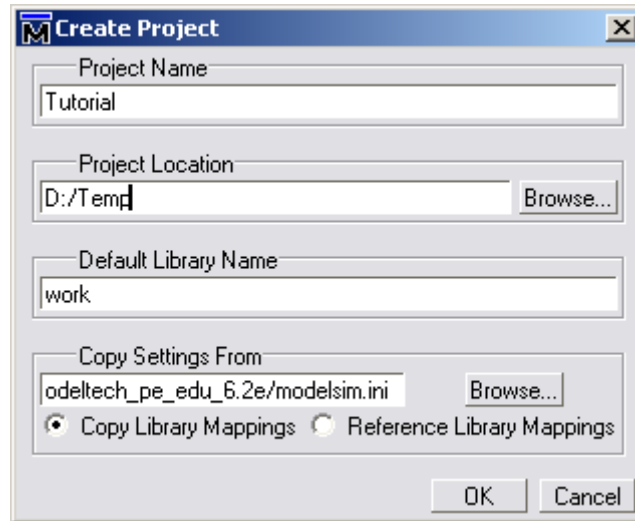

Figure 2: Create Project Dialog
3. A “Create Project” window appears (See Figure 2). Enter an appropriate name for your project in the “Project Name” field, set the location where you would like the project to be created, and do not modify any of the other options. For this tutorial, name your project “Tutorial.” Hit OK.